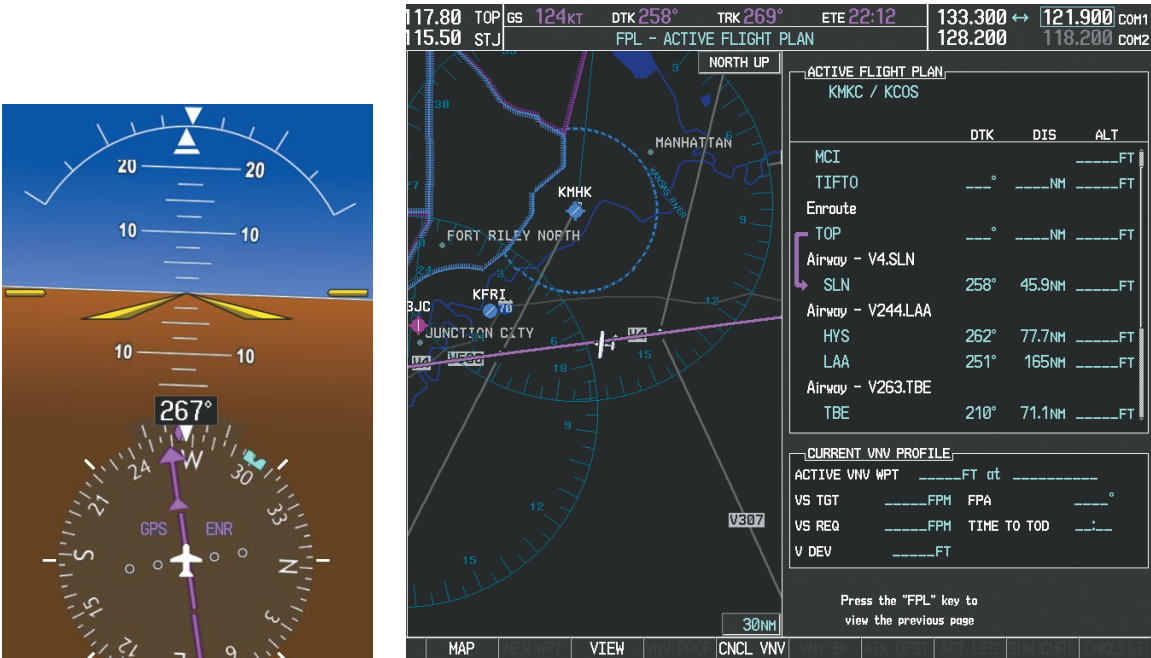

Figure 5-113 Turn on to Active Leg
7) As the CDI approaches center, the aircraft turns onto the active leg as seen in Figure 5-113.